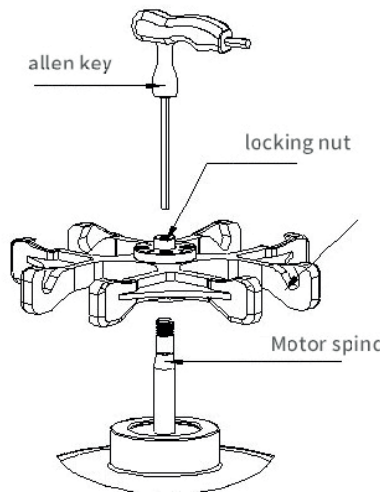

Figure 4: Schematic diagram of installing the rotor
The steps for installing the rotor are as follows (as shown in Figure 4)
- As shown in Figure 4, prepare the rotor you want to use. Grasp the rotor with both hands, align the center hole of the rotor with the motor spindle, place it vertically and at the bottom of the conical surface of the spindle. Release both hands, press the rotor down with your hands again.